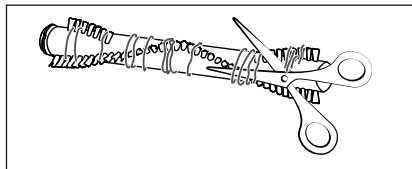

Fig. 26
- 4) Cut threads and hairs along the bristles of the rotary brush 20 with scissors (see Fig. 26). Remove threads and hair from the rotary brush 20.